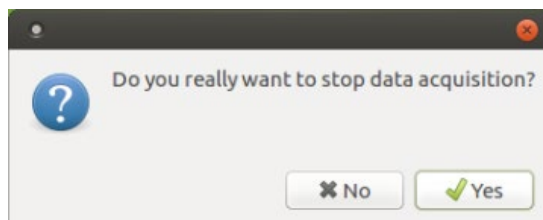

Figure 3: Analyzer Shutdown Dialog
2. Using a 2 mm hex driver, remove the top lid of the analyzer by removing six M3 x 6 mm socket flathead screws (Figure 3).